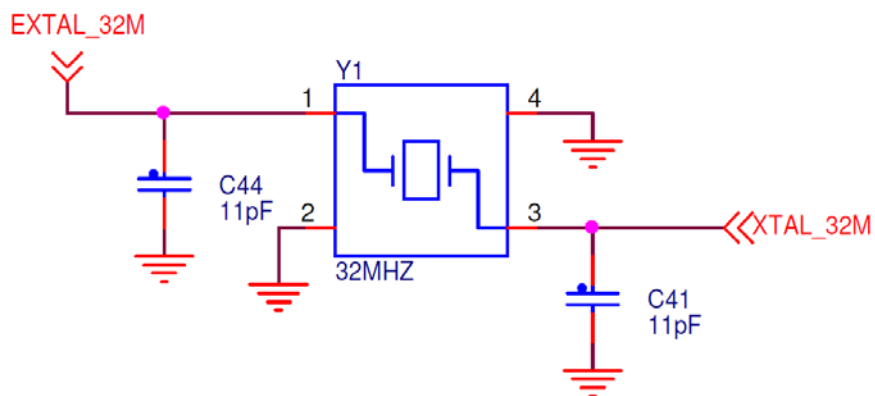

Figure 8. FRDM-KW40Z board's 32 MHz reference oscillator circuit
- 32 MHz Reference Oscillator—Figure 8 shows the 32 MHz external crystal Y1. This mounted crystal meets the specifications outlined in *Reference Oscillator Crystal Requirements for the MC1320x, MC1321x, MC1322x, and MC1323x IEEE 802.15.4 Devices* (document AN3251). The IEEE Std. 802.15.4 requires the frequency to be accurate to less than  $\pm 40$  ppm.